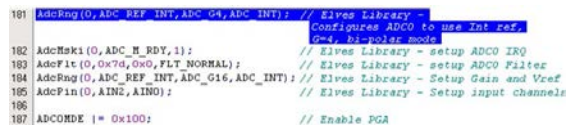

Figure 51. Copying and Pasting Source Code
3. Once satisfied with the register settings, select **Copy** and then paste this function into your source code in Keil or IAR as shown in Figure 51.